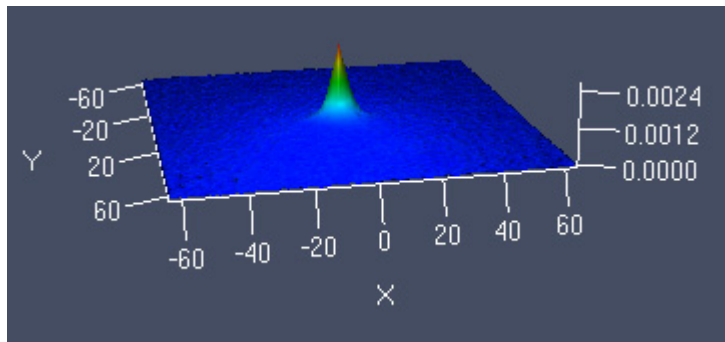

Fig. 6-117 Correlation displayed clockwise as Diagram, Image, Table and 2.5 D
2.5 D will display the correlation function and the fit / residuals if activated as pseudo 3D images (Fig. 6-117).